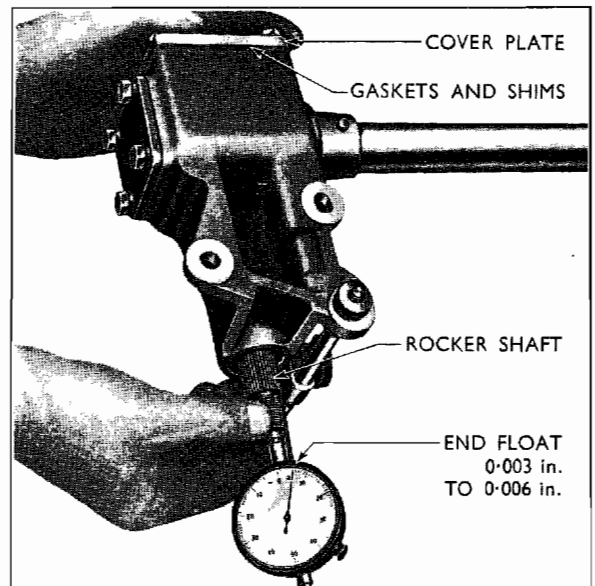

Fig. 9
- (b) Assemble the gauge and stand to the housing so that the gauge spindle contacts the threaded end of the rocker shaft, see Fig. 9.